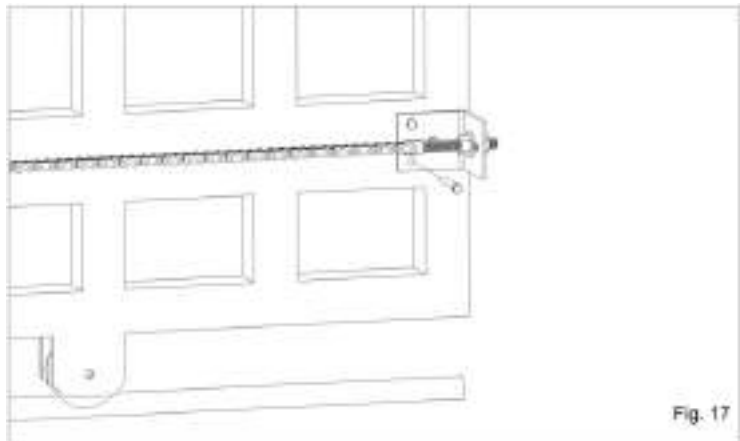

Fig. 17
**5.1.** Fix the angle irons, with not supplied screws, to the two extremities of the gate and fix the chain with the provided tie rod (fig. 17).